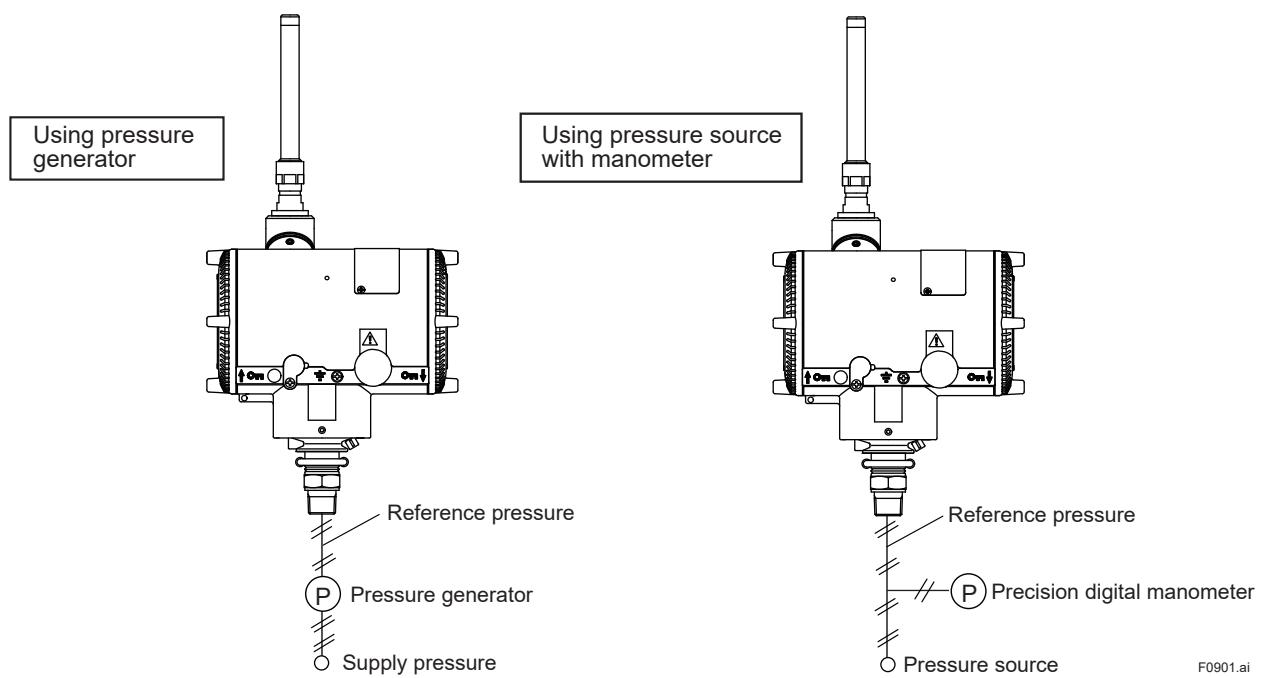

Figure 9.1 Instrument Connections
- Connect the devices as shown in Figure 9.1 and allow the transmitter to warm up for at least 5 minutes.